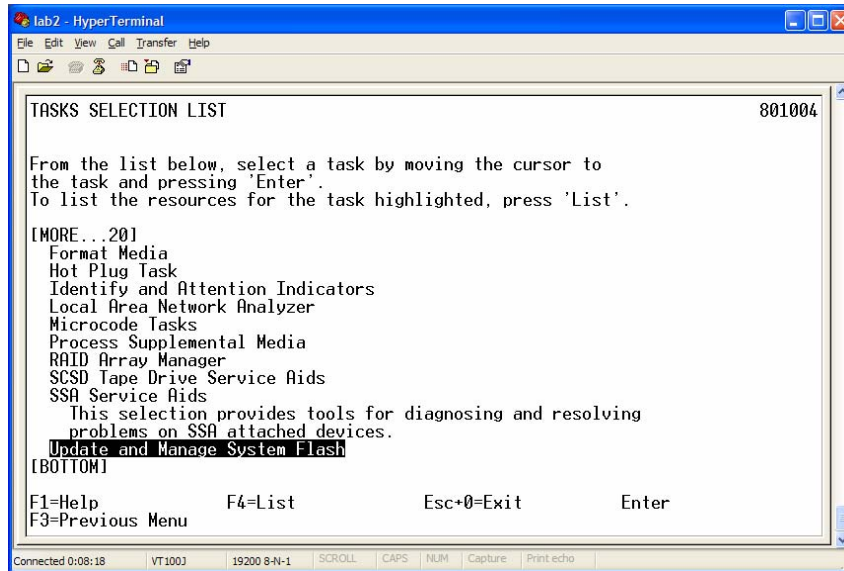

Figure 19. Selecting Update and Manage System Flash
11. From the Tasks Selection List screen shown in Figure 19, move your cursor to highlight **Update and Manage System Flash**. Then, press **Enter**.